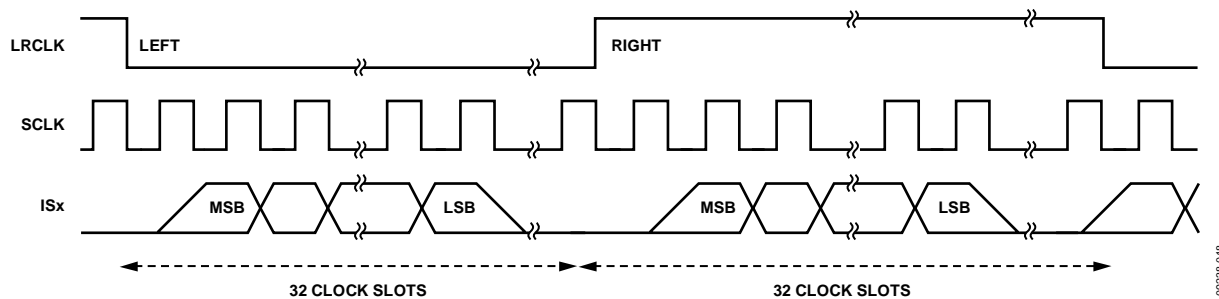
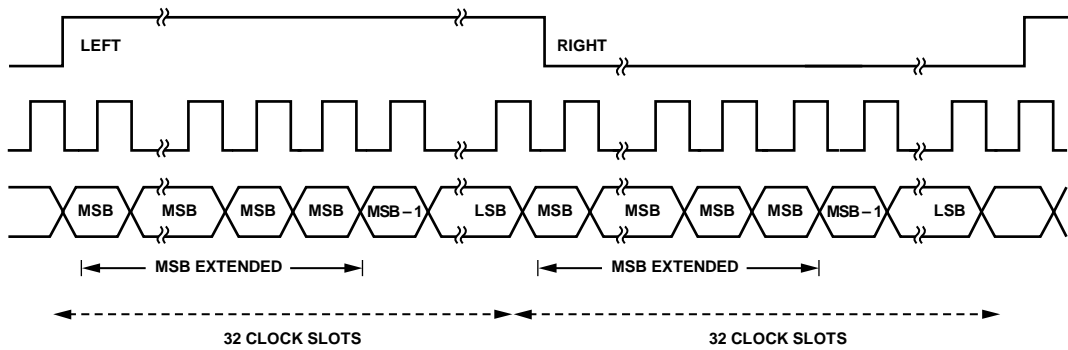
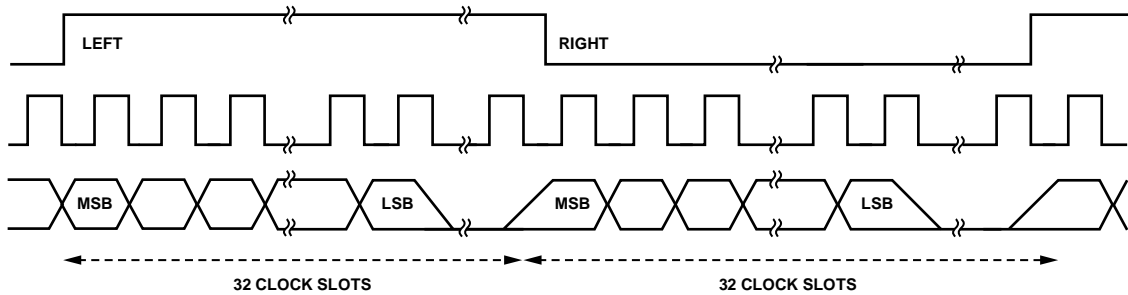

Figure 15. Timing Audio Data Output in I²S Mode
Figure 16. Timing Audio Data Output in Right Justified Mode
Figure 17. Timing Audio Data Output in Left Justified Mode
- L-PCM audio data is output on the audio output pins if the part received audio sample packets with L-PCM encoded audio data. AP audio output pin can carry only stereo mode in L-PCM, which can be output in I²S, right justified, or left justified mode (refer to Figure 15, Figure 16, and Figure 17). The I2SOUTMODE[1:0] control must be set to 0x0, 0x01 or 0x2 to output I²S, right justified, and left justified respectively on the audio output pins.
- I2SOUTMODE must be set to 0x0, 0x01, or 0x2 for I²S, right justified, and left justified format, respectively (refer to Figure 15, Figure 16, and Figure 17)